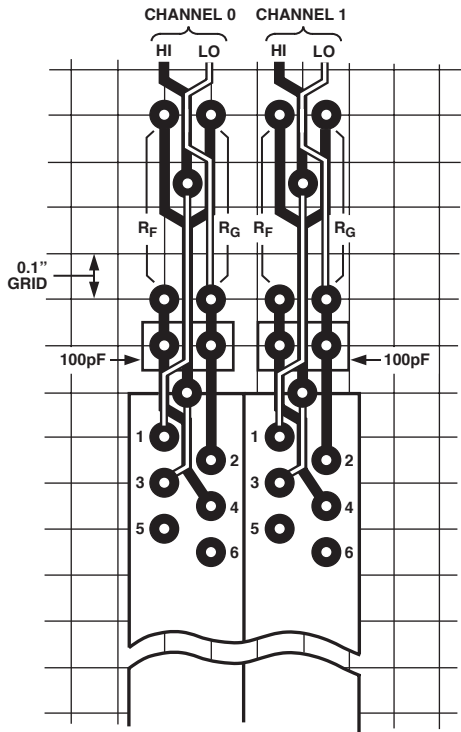

Figure 16b.
**PCB Layout for Multichannel Applications.** The pinout of the AD204Y has been designed to make very dense packing possible in multichannel applications. Figure 16a shows the recommended printed circuit board (PCB) layout for the simple voltage-follower connection. When gain-setting resistors are present, 0.25" channel centers can still be achieved, as shown in Figure 16b.